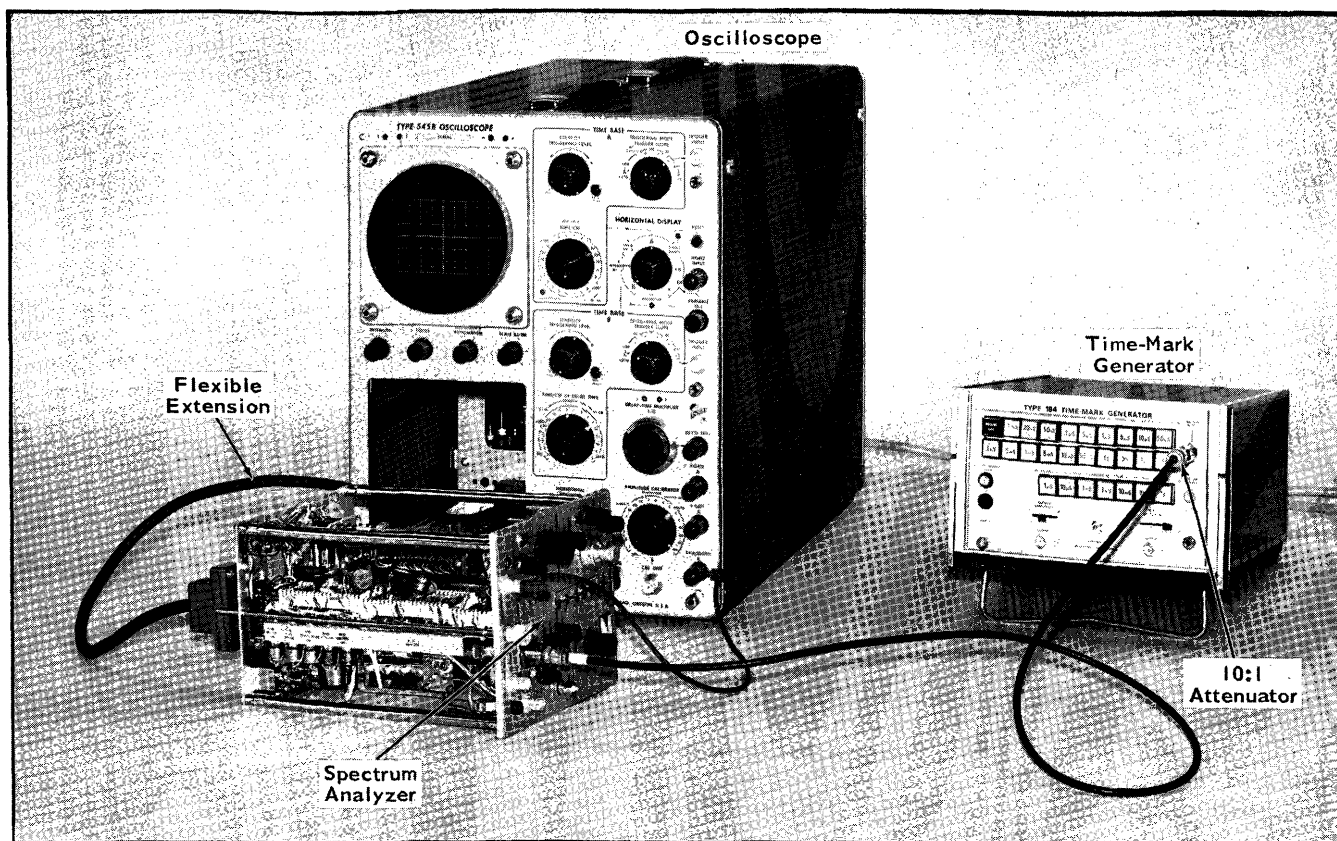

Fig. 6-3. Setup for adjusting Dispersion accuracy (Step 2).
①
a. Connect the equipment as shown in Fig. 6-3.